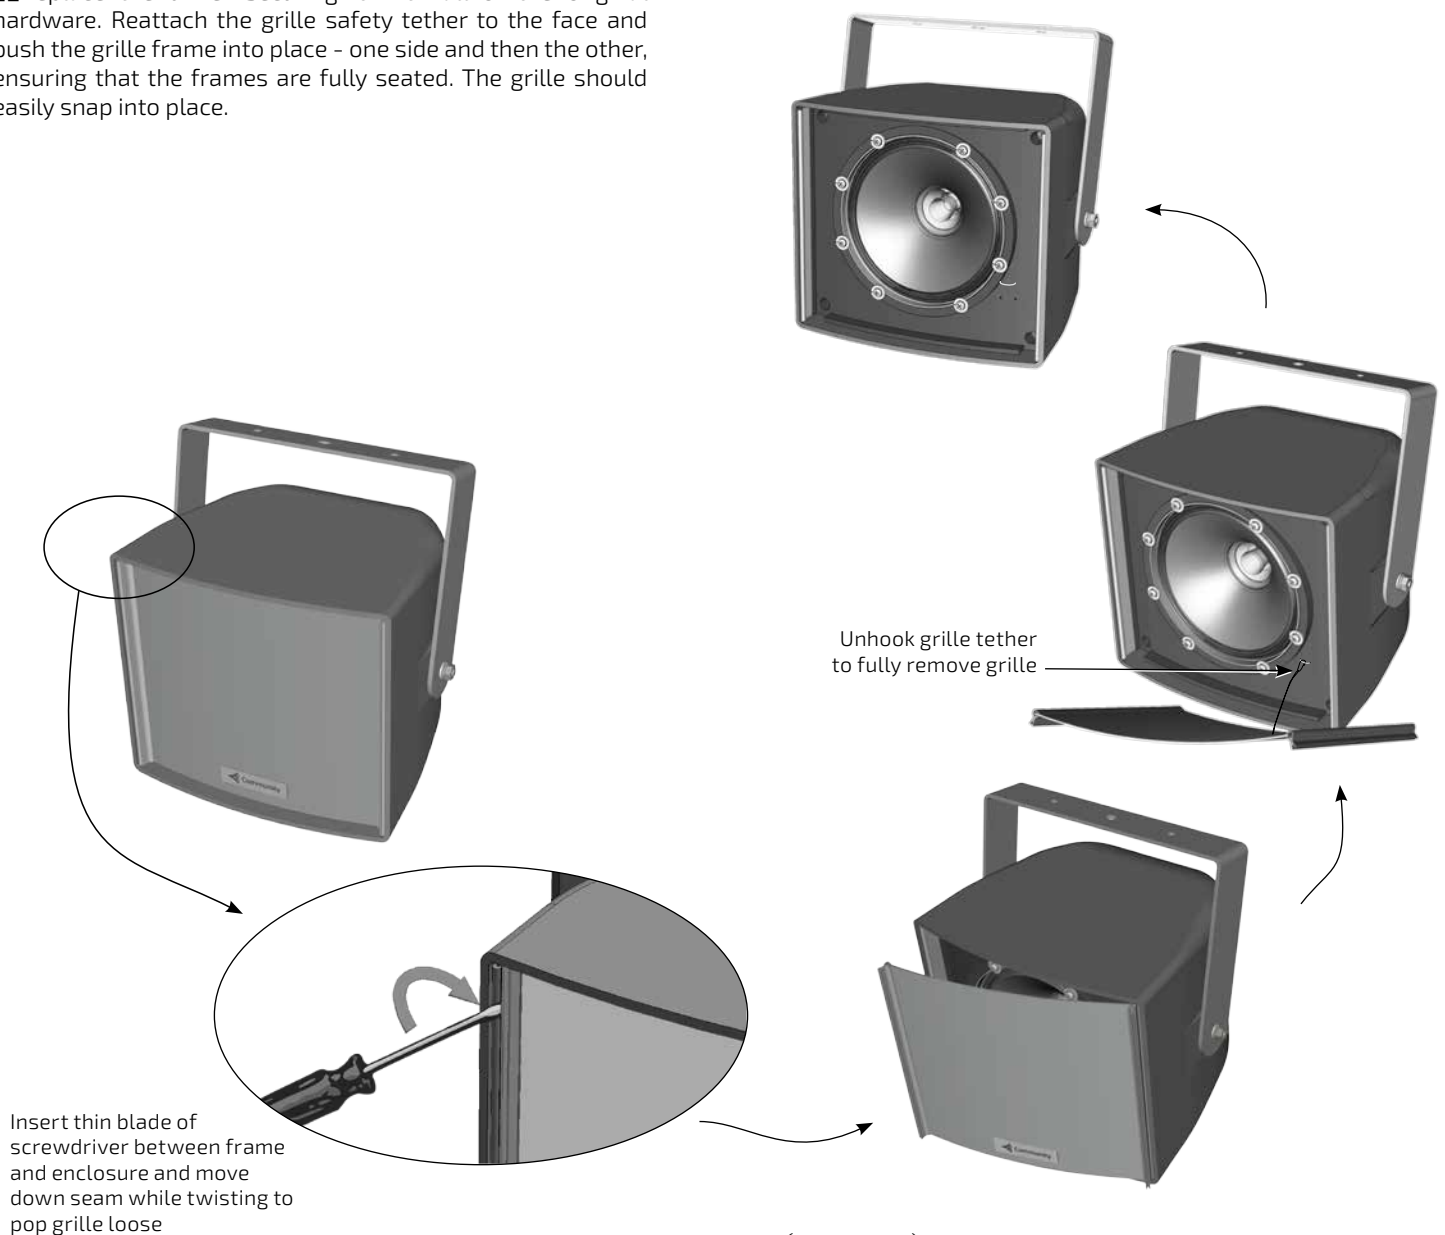

Figure 7. Remove grille (R.15 shown)
--Remove the grille. Refer to illustrations in **Figure 7**. The grille frame locks into the enclosure frame. Carefully insert a thin flat bladed screwdriver between the grille frame and the enclosure frame while gently pressing down on the grille. Starting at the top and moving down, twist the blade to pop the grille frame free of the enclosure. There is a safety tether at the bottom of the grille that can be unhooked to fully remove the grille.